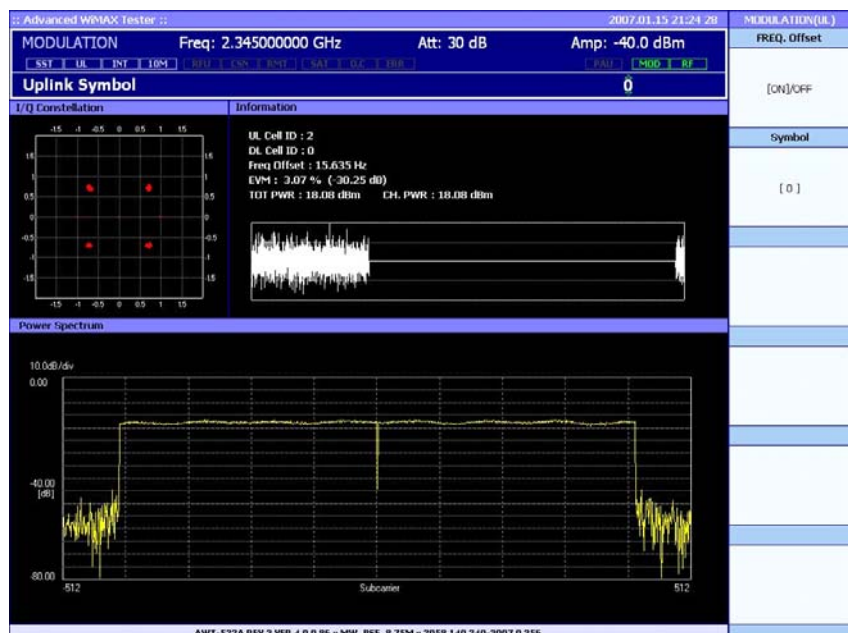

Figure 13 Uplink Test Modulation Analysis Window
- 3 Perform Modulation Analysis:** While the Uplink Test is in progress, the Test Set can analyze the uplink signal's quality and performance. Press **Measure** on the Front Panel, followed by **Modulation** in the **Selection** Menu. The “**Uplink SYNC Detection**” message is displayed, indicating that uplink synchronization processing is in progress. When this process is complete, the Measurement Window in Figure 13 is displayed. Refer to “Signal Analyzer Mode” on page 57 for more details of analyzer functions.